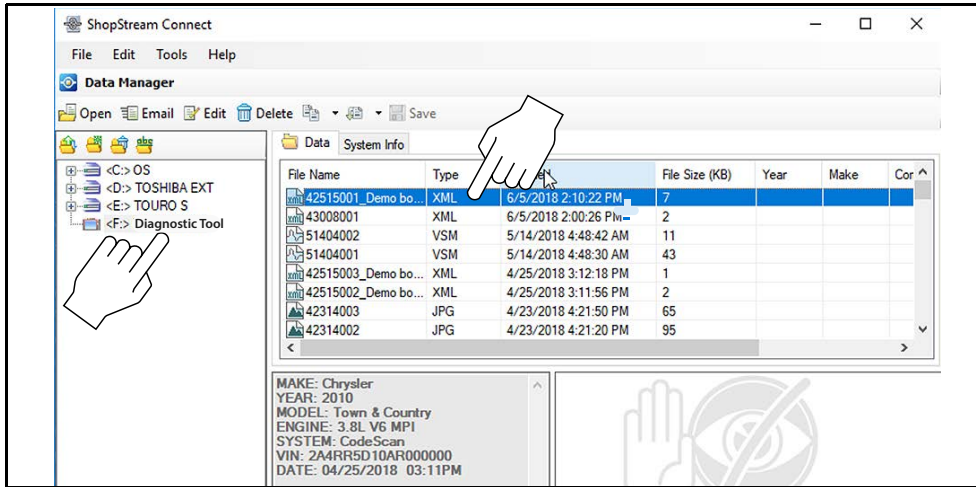
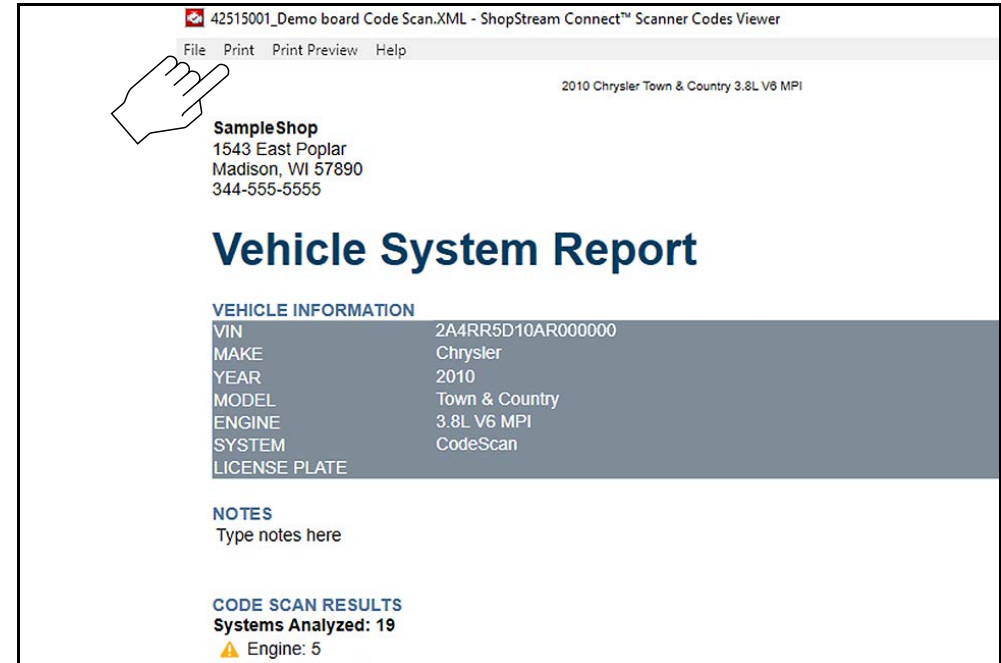

Figure 18-5
Figure 18-6
1. Double-click the code scan .XML file from the file list to open the Vehicle System Report (Figure 18-5) in the Code Scan Viewer (Figure 18-6).
2. Select **Print** or **Print Preview** from the Code Scan Viewer menu to print or preview the Vehicle System Report (Figure 18-6).